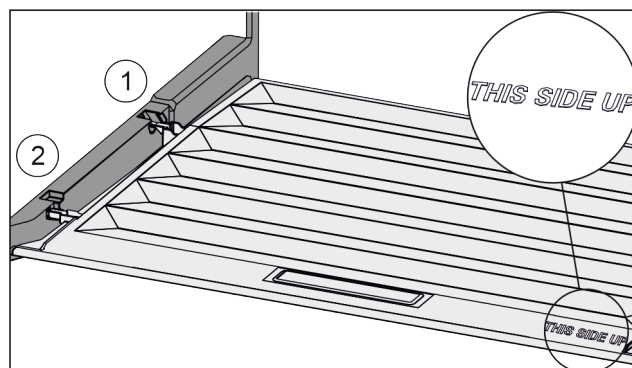

Fig. 107
- Insert the lip of the cover over the opening of the rear bracket Fig. 107 (1) and click into place Fig. 107 (2).